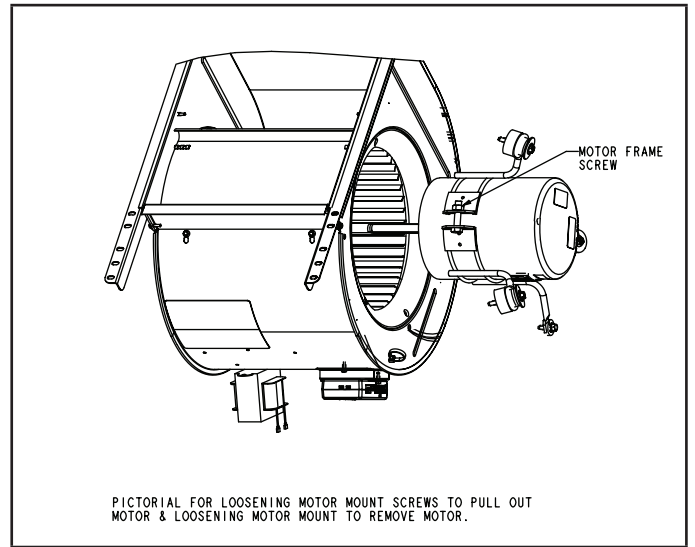

Figure 2
- 6 - Loosen motor frame/belly band screw and remove the motor from the blower housing. (see figure 2)